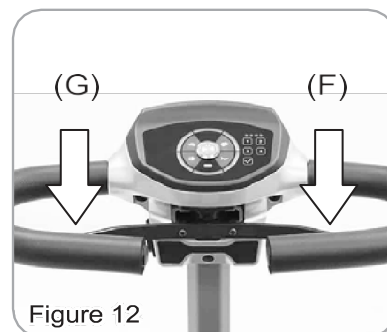

Figure 12
- Pull the right throttle (F) to move scooter forward. Pull the left throttle (G) to move scooter backward. This can be reversed if required by local dealer. (Figure 12)